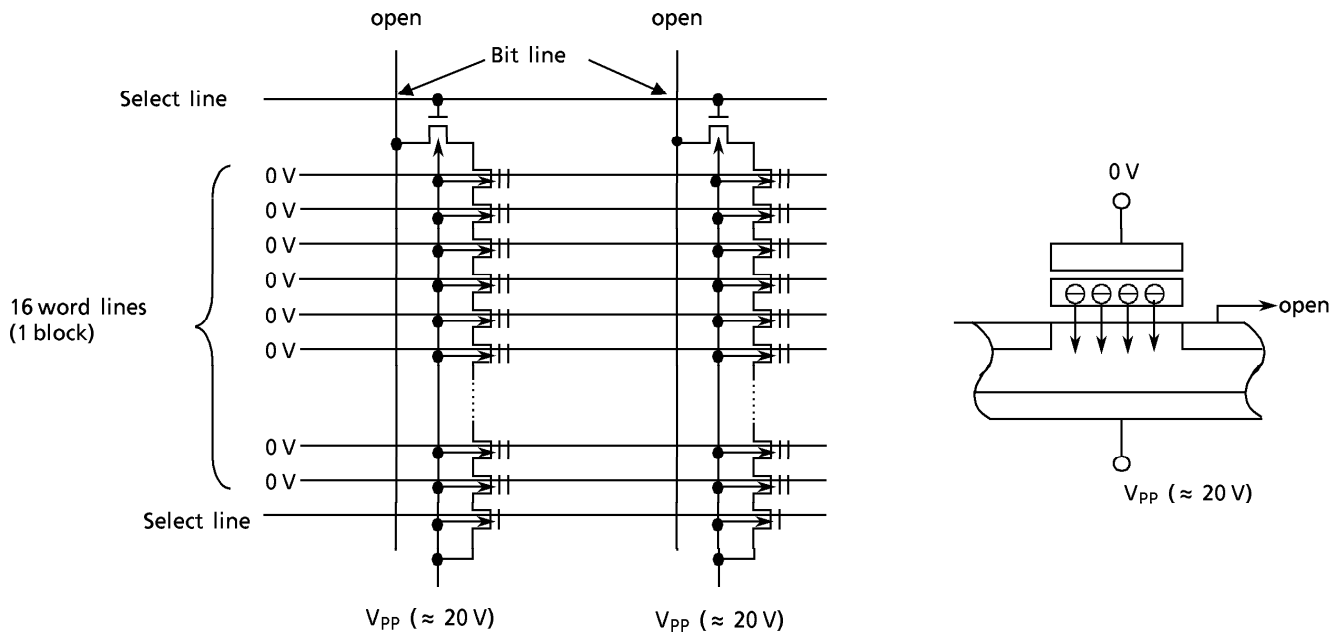

Figure 18. TC5816 Erase Device Physics
- (1) A high level is applied to Select line 1 and a low level is applied to Select line 2 so that the device is connected to the Bit line and disconnected from the ground line.
- (2) V_{pp} ($\approx 20\text{ V}$) is applied to the selected word line and an inhibit voltage of V_{PI} ($\approx 10\text{ V}$) is applied to the unselected word lines.
- (3) 0 volts is applied to the bit line tied to cell transistor TR1 and the inhibit voltage VD_{PI} ($\approx 10\text{ V}$) is applied to the bit line tied to TR2.
- (4) V_{pp} is applied between the control gate and the channel in TR1, as shown in Figure 18, which causes electrons to be injected from the channel to the floating gate by a tunneling mechanism.
- (5) The injected electrons are captured in the floating gate surrounded by an oxide layer and will remain, even after power is cut off, until they are removed by an Erase operation.
- (6) Although 20 volts is applied to the control gate of TR2, the voltage difference between the control gate and the channel is only 10 V because the voltage of the channel is 10 V. Therefore, tunneling does not take place (i.e. the electron is not injected into the floating gate.)
- (7) Tunneling does not take place in the unselected pages because of the 10 V (V_{PI}) applied to the unselected word lines which makes the voltage difference between the control gate and channel only 10 volts.
Figure 18 shows the NAND memory cell level details of the Erase mechanism. The Erase operation is used to turn the “0” (programmed) cells back to “1” in a block. The captured electrons are pulled out from the floating gate to the substrate by a tunneling mechanism.